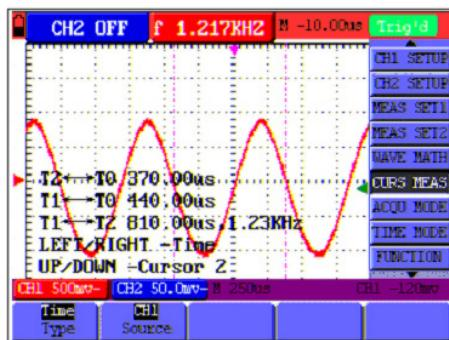

Figure 25: Use the cursor for a time measurement.
- 6.- Keep pressing on the **OSC OPTION** key till the **▲/▼ CURSOR T2** is displayed on the screen. Then, adjust the **OSC ▲** or **OSC ▼** and you can find that the dashed line **T2** is moving right and left while the time value of **T1** relative to the **screen middle point position** appears on the screen. You can also observe the absolute time values and frequencies of **T1** and **T2**. Now, you can see a screen that looks like the following figure 25.